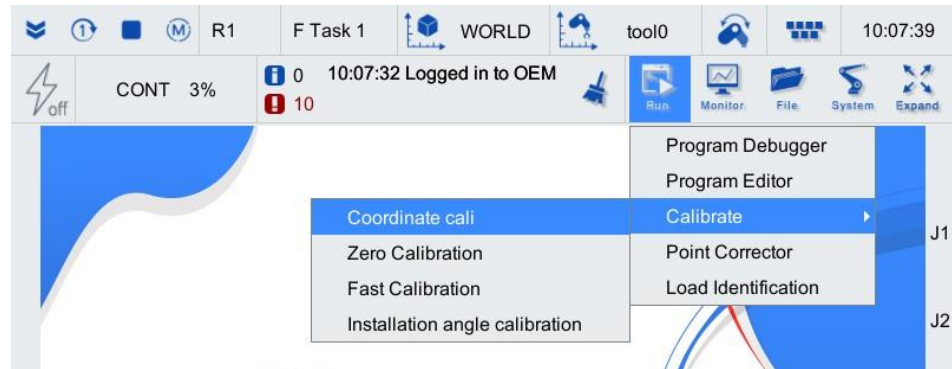

Figure 4-1 [Coor Sys measure] interface
Step1. Click [Run/Calibrate/Coordinate cali] on the upper right side of the main interface of the teach pendant (as shown in Figure 4-1) to enter the [Coor Sys measure] interface.